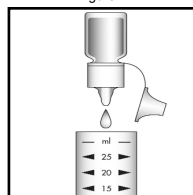

Figure 2
2. Add 2 drops of A-3900 Activator Solution (fig. 2). Stir to mix the contents of the cup.